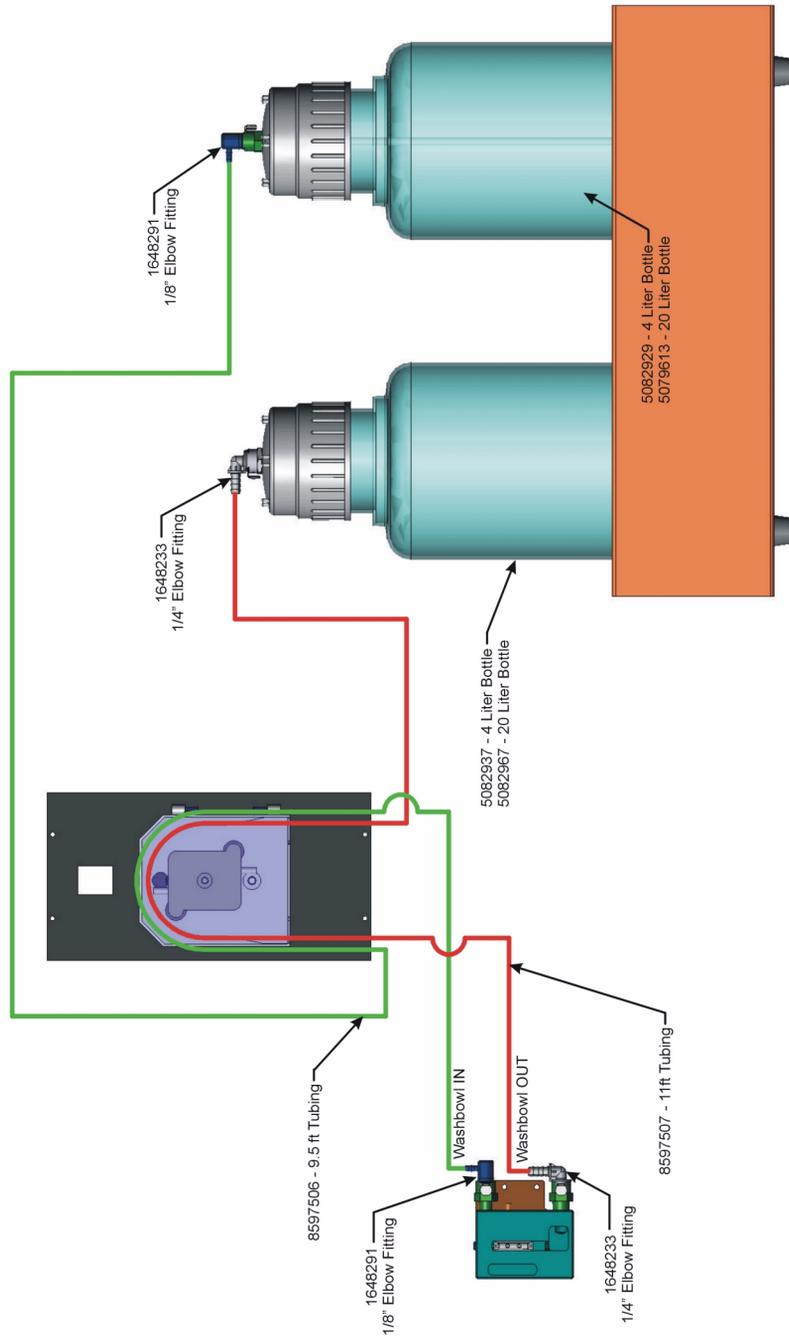

Figure 10-27. Peri-pump Tubing Chart.
Peri-pump tubing tends to wear out over time from the mechanical motion of the pump head. Replace both pieces of Marprene® tubing whenever you make any tubing changes in the peri-pump (Figure 10-27).
12. Open the Tubing Clamps and route the larger diameter tubing from the washbowl around the peri-pump head in a clockwise direction to the Waste Container (Figure 10-27).
13. Open the Tubing Clamps and route the smaller diameter tubing from the washbowl around the peri-pump head in a counterclockwise direction to the Wash Solution Reservoir (Figure 10-27).